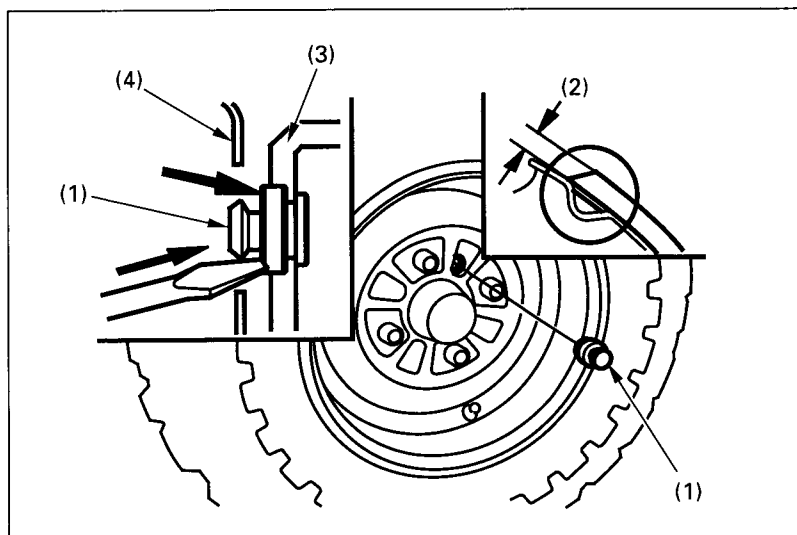
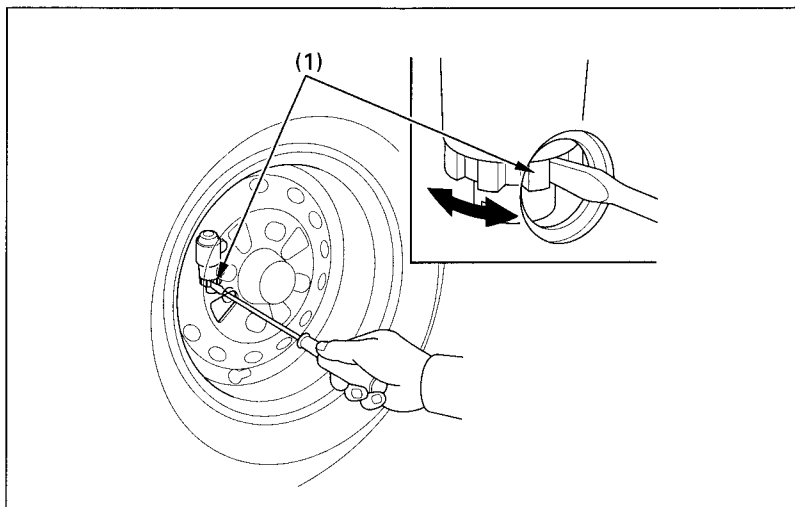

Fig. 4-25
Fig. 4-26
(1) Front brake lever
2. Remove the inspection hole plug (Fig. 4-25) and measure the lining thickness (2) on both front wheels.
3. Beginning with either the left or right front wheel, remove the inspection hole plug (Fig. 4-25) and line up the hole with one of the brake adjusters (Fig. 4-26).
4. Using a screwdriver, turn the brake shoe adjuster (1) in the direction of the arrow until the front brake locks.
(1) Brake adjusters
7. Reinstall the inspection hole plug, seating it into the inspection hole as shown in Fig. 4-25.